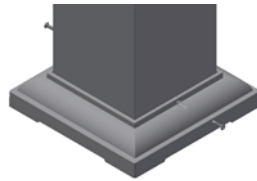

Fig. 6
**Step 6** Slide base to bottom of column and insert 2 screws into base as shown. (See Fig. 6) Repeat for capital at the top of column.